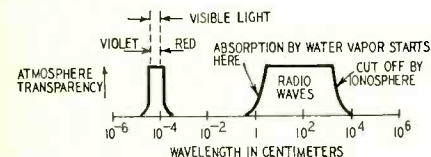

Fig. 1—Diagram shows transmission of electromagnetic energy in atmosphere.
**M**OST of man's knowledge of the universe has been gained by the use of his eyes. The human eye is sensitive to electromagnetic waves of lengths between about  $7 \times 10^{-5}$  cm (red) and  $4 \times 10^{-3}$  cm (violet). We can see the sun and the stars because waves of this length are transmitted through the earth's atmosphere with little loss. Fig. 1 shows how the transmission through the atmosphere varies with wavelength. There are two main bands in the spectrum through which electromagnetic waves can reach the earth from outer space. The first band extends from ultra-violet waves through the region of visible light to the infra-red. At each end of this band the transmission is shut off by absorption in the earth's atmosphere. The second band lies in the region of radio waves and extends from waves of about 1 cm to about 60 meters in length. This band is bounded at the shortwave end by absorption in the water vapor and other gases of the earth's atmosphere, and at the long-wave end by absorption high up in the ionosphere.